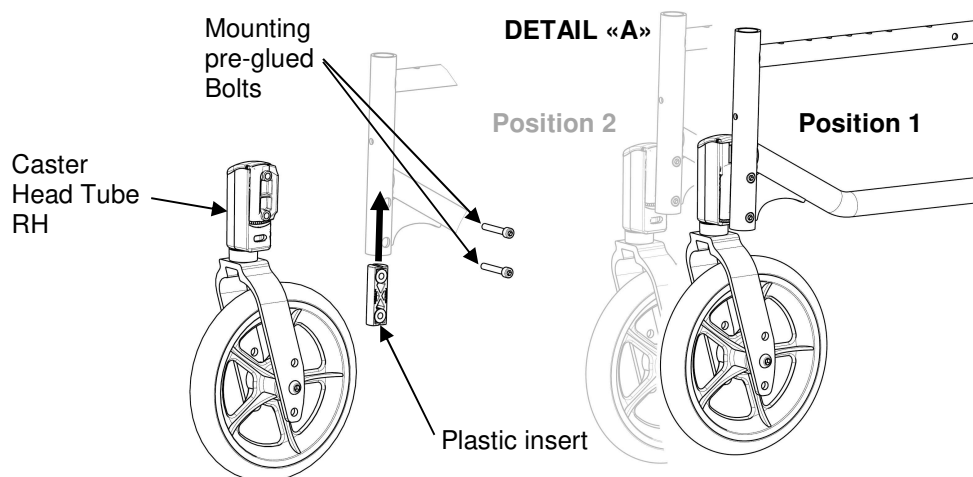

FIGURE 5.11 Adjusting Castor Assembly Position
NOTE: For this procedure, refer to FIGURE 5.11.
2. Move the castor head tube assembly to one of two positions. Refer to Detail “A” of FIGURE 5.11. Always check that the plastic insert is present before tighten the mounting screws.